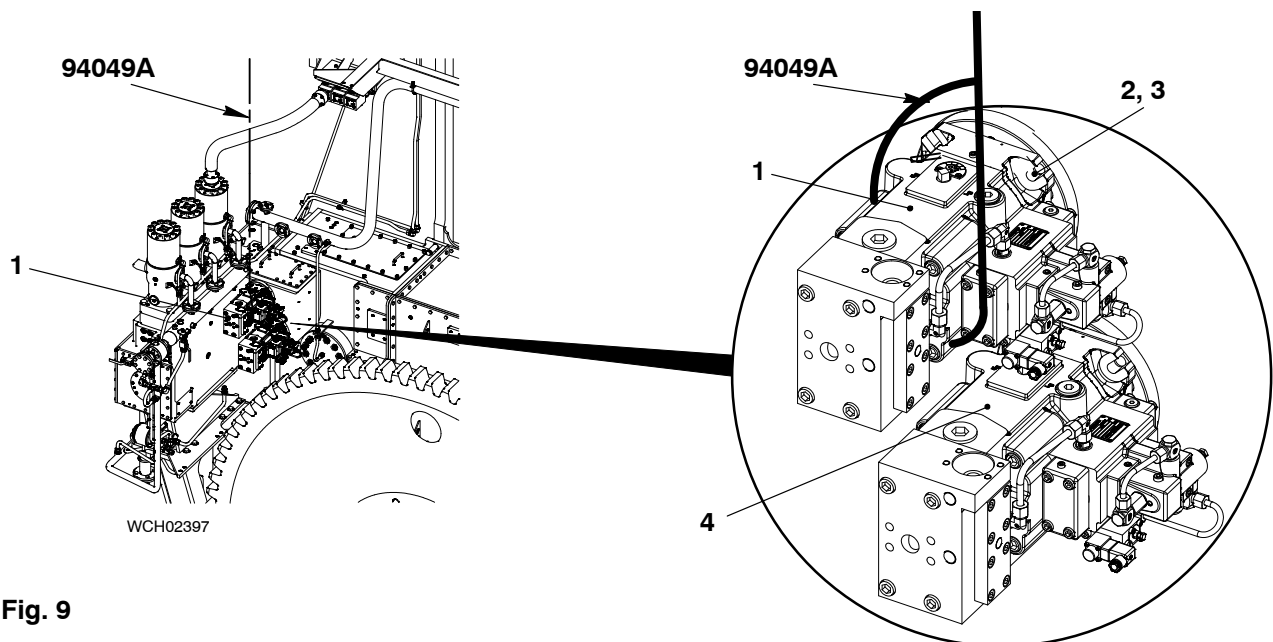

Fig. 9
- 3) Put the sling (94650, Fig 9) around the servo oil pump (1) two times.
- 5) Use the engine room crane to put the servo oil pump (4) in position.
- 6) Attach the servo oil pump (4) to the casing with the four washers (3) and nuts(2).